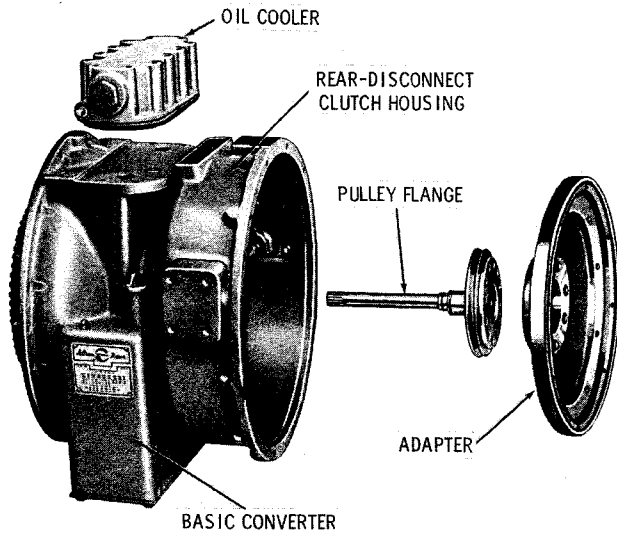

Fig. 1-8. Basic TCRD 200, 300 converter, with major available options
j. Rear Disconnect Output. For installations requiring disconnect of the converter output shaft from the load, a clutch housing and adapter are provided. This type of clutch is needed for installations with a selective gear transmission requiring shifts while the vehicle or other mechanism is in motion. A V-belt pulley is attached to the turbine shaft so that a remote-mount governor may be used. The clutch housing is available in SAE 2- or SAE 3-size mounting face (fig. 1-8).